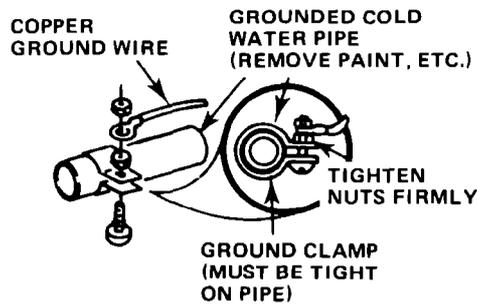
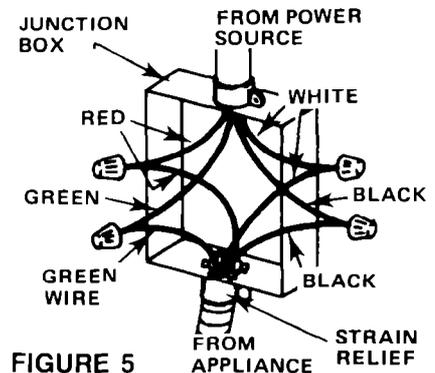

FIGURE 4
FIGURE 5
If local codes DO NOT permit frame grounding to the neutral, separate the white and green wires that extend out of the end of the supply cable of the appliance. See Figure 5. Connect the white wire from the supply cable to the neutral wire in the junction box. Connect the black and red wires from the supply cable, to the corresponding wires in the junction box. The green wire must now be used to ground the appliance in accordance with local electrical codes. Connect the green colored copper ground wire to a grounded cold water pipe\* (see Figure 4) or to the grounded lead in the service panel.
**Do not ground to a gas supply pipe.** Do not connect to electric power supply until appliance is permanently grounded. Connect the ground wire before turning on the power. (See Figure 4.)
**CAUTION** — If connecting to a four-wire electrical system (MOBILE HOME) the appliance frame **MUST NOT** be connected to the neutral wire of the four-wire electrical system. Separate the white and green wires that extend out of the supply cable of the appliance. Connect the white, red and black wires from the supply cable to the corresponding wires in the junction box. Connect the green wire from the supply cable to the ground wire in the junction box. (See Figure 5.)